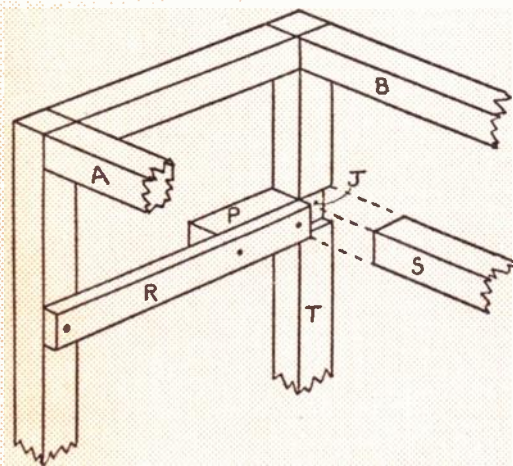

Fig. 2
Next, saw off a piece of stripwood 15ins. long and 1in. by $\frac{1}{2}$ in. section. To one end of this glue and nail a short length of 1in. square stripwood, and fix the whole to the side with glue and nails, as shown in Fig. 2, (R), (P). It should be 7 $\frac{1}{2}$ ins. from the top. Fig. 2 is the view from the inside of the cabinet.